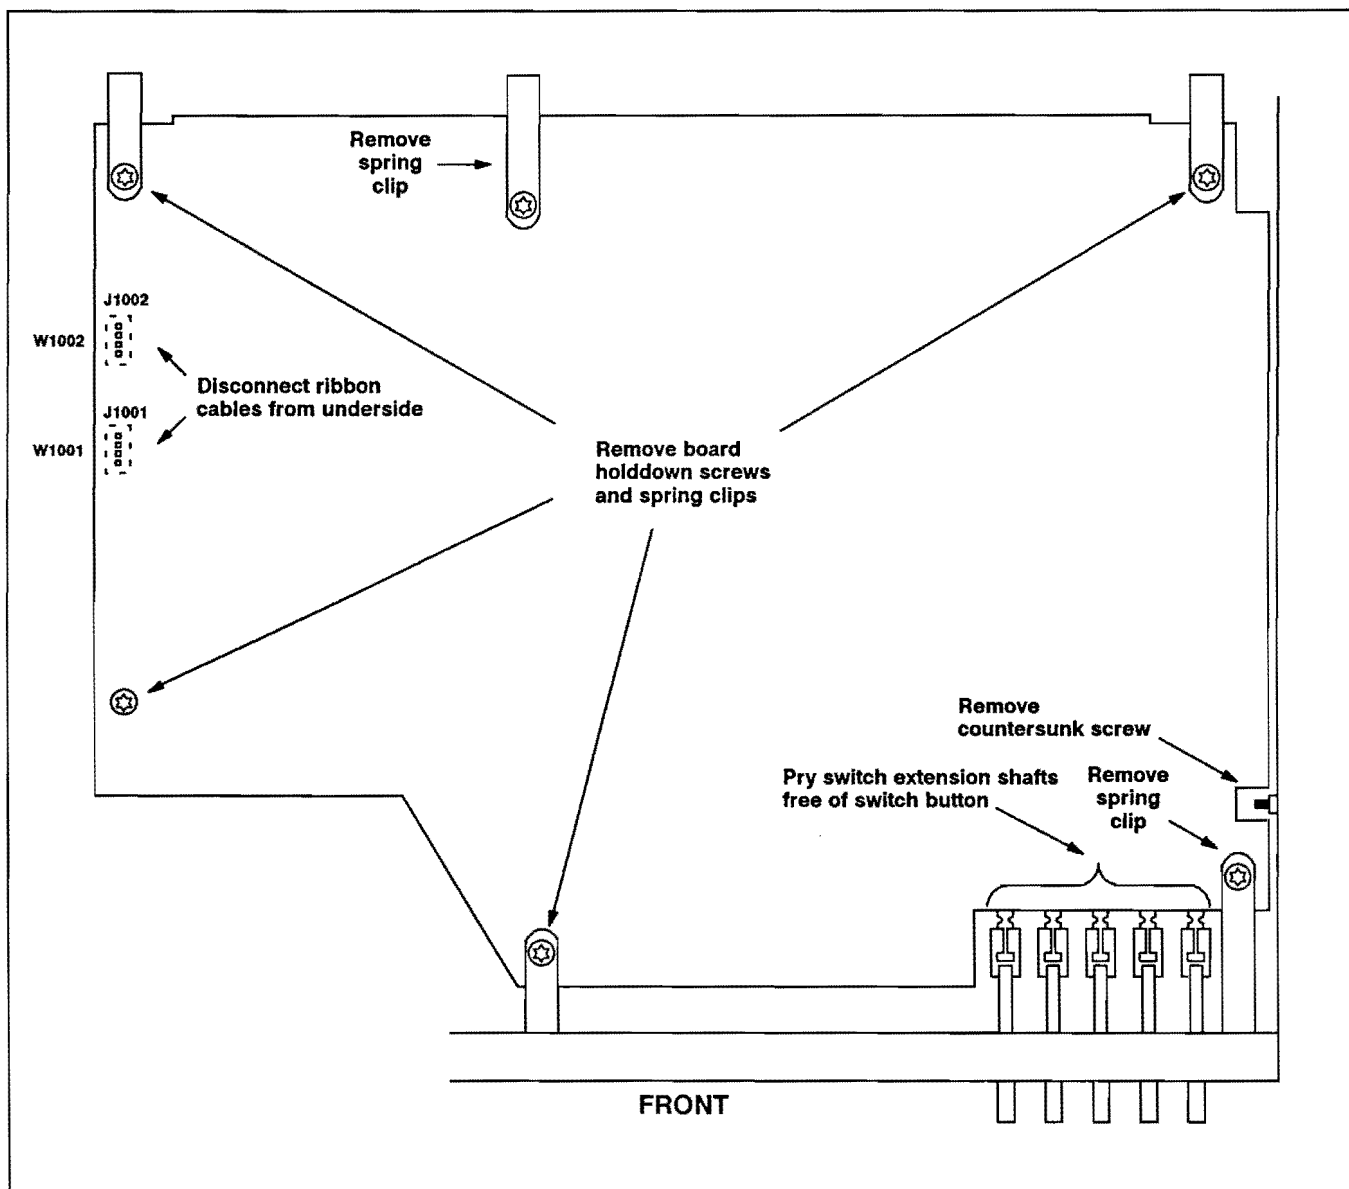

Figure 6-2. Storage board removal.
4. Remove four screws holding the Storage board to the chassis and the associated springs. See Figure 6-2.